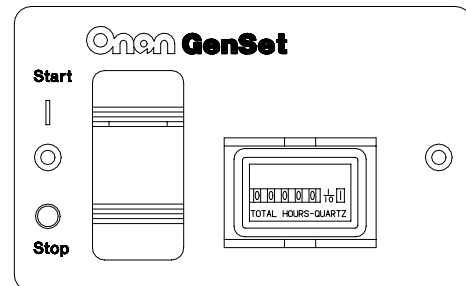

FIGURE 11. REMOTE SWITCH / HOUR METER
- Remote switch / status lamp and hour meter (Figure 11).